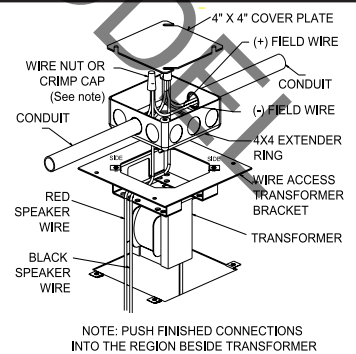

Fig. 5: Transformer Settings (32W)
• Transformer Settings (Fig. 5):